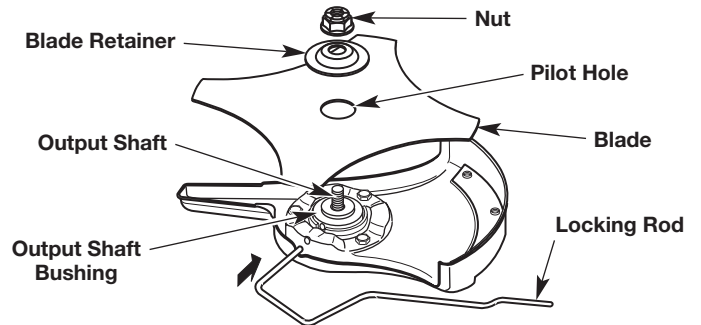

Fig. 17
4. While holding the locking rod in place, put the blade on the output shaft bushing (Fig. 17).
**WARNING:** To avoid serious personal injury, make sure that the pilot hole on the blade is sitting flat against the output shaft bushing (Fig. 17). The unit will vibrate and the blade may fly off if the blade is not centered.
5. Place the blade retainer on the output shaft with the flat surface against the blade (Fig. 17).
6. Screw the nut onto the output shaft (Fig. 17).